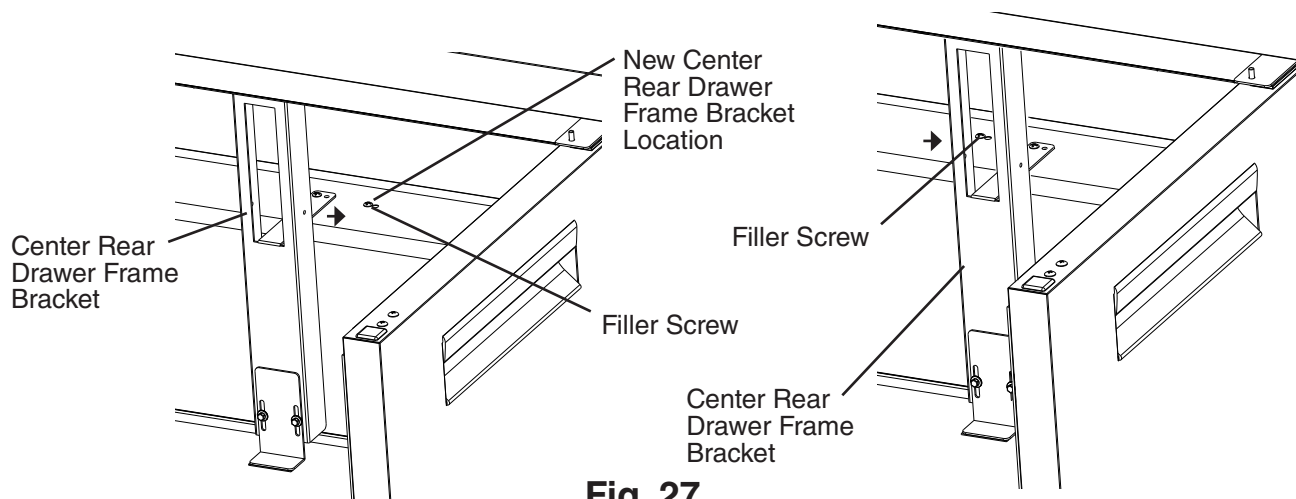

**Fig. 27**
- 6) Remove the center rear drawer frame bracket and the filler screw. See Fig. 27. Slide the center rear drawer frame bracket over to the new location and secure it. Place the filler screw in the former center rear drawer frame bracket hole.